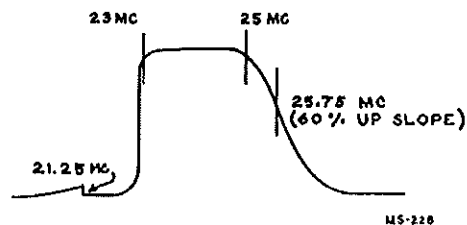

Figure 32—Typical Overall Response Curve
**RETOUCHING OF PICTURE I-F ADJUSTMENTS**—The picture i-f response curve varies somewhat with change of bias and for this reason the receiver should be aligned with approximately the same signal input as it will receive in operation. If the receiver is located at the edge of the service area, it should be aligned with the picture control at the maximum gain position. However, for normal conditions (signals of 800 microvolts or greater), the picture i-f stages should be aligned with a grid bias of -3 volts. Connect the sweep generator to the receiver antenna terminals. Feed in the i-f picture carrier marker of 25.75 mc and a 23 mc marker. Connect the oscilloscope across the picture-detector load resistor. Remove the shunting capacitor from the second picture i-f grid (if C14 was adjusted as outlined above). Set the i-f grid bias to -3 volts and the sweep output to produce approximately 0.3 volt peak-to-peak across the picture-detector load resistor. Observe and analyze the response curve obtained. The response may not be ideal and the i-f adjustments may have to be retouched in order to obtain the desired curve. See Figure 32.